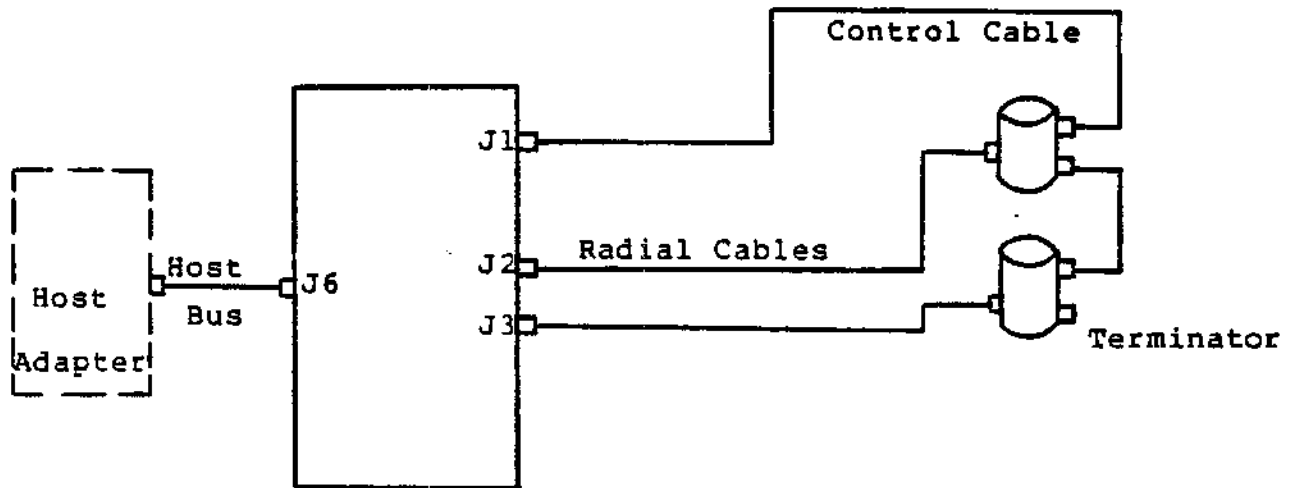

Figure 2.1
The controller and data separator comprise a single PCB that can be mounted onto the SA1000 drive. A maximum of two (2) drives may be connected as shown in Fig. 2.1.